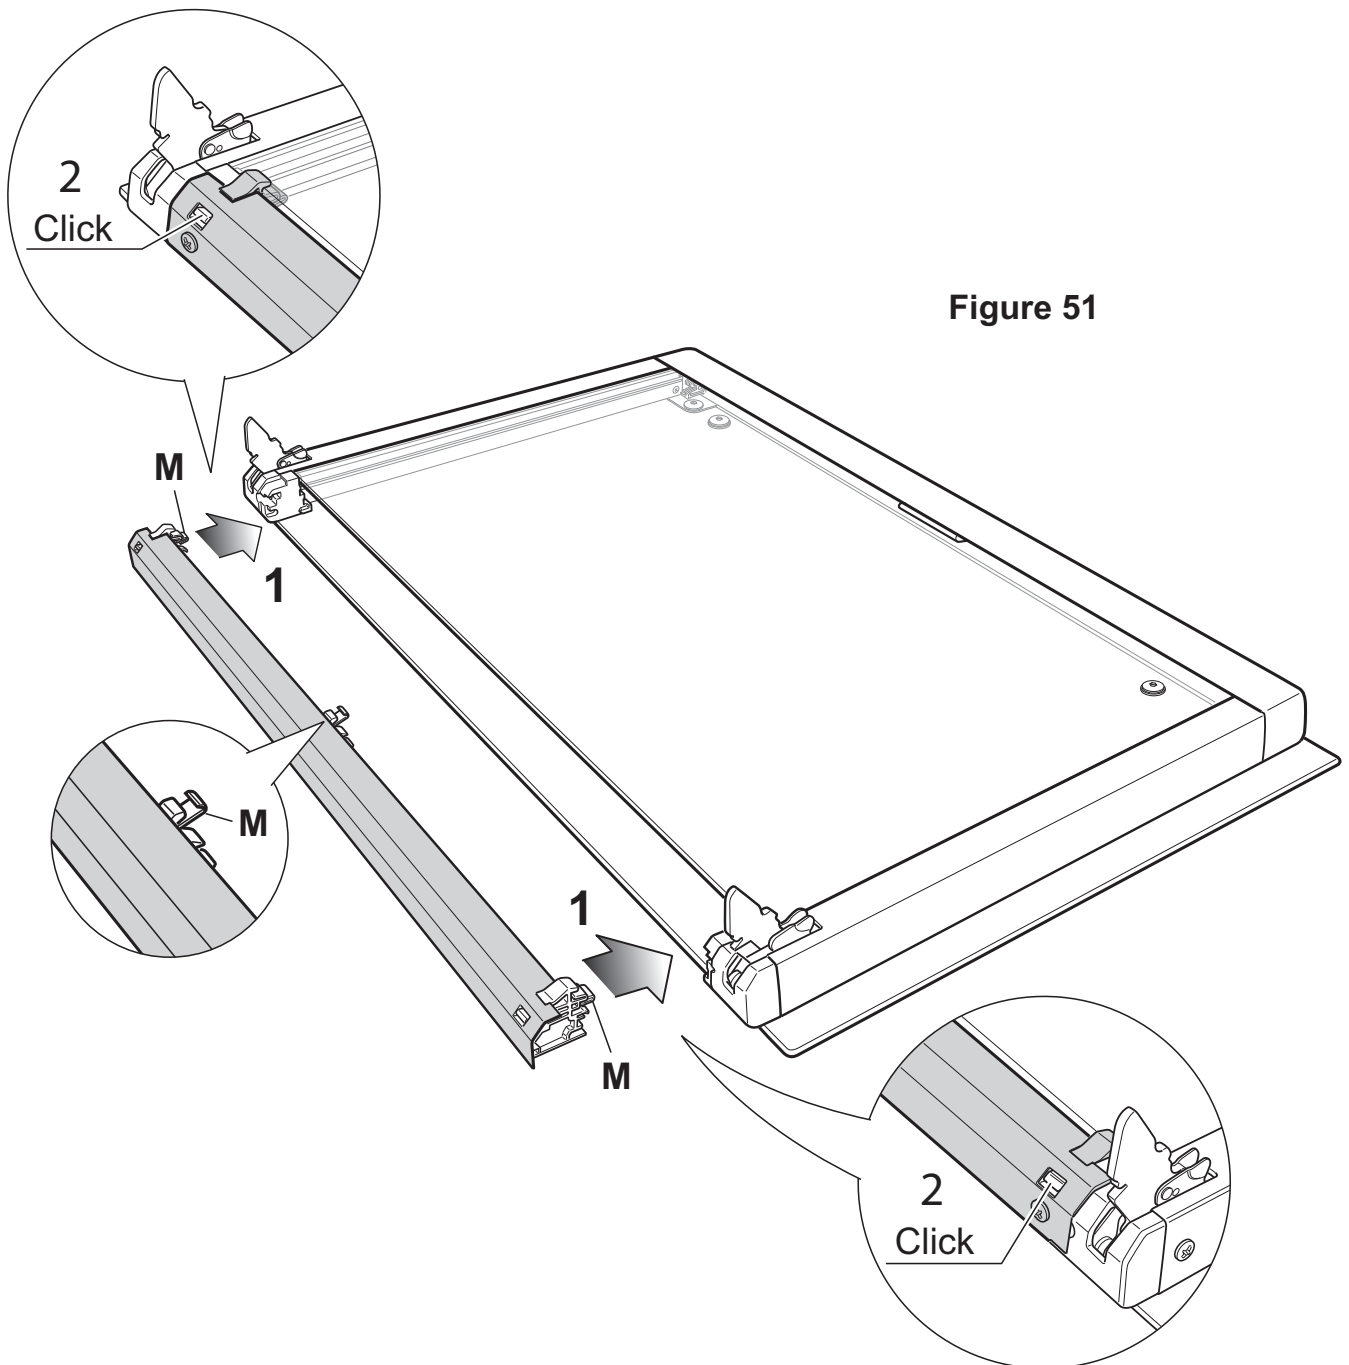

Figure 51
1. Position the glass retainer, as shown in the figure 51. It should sit on the bottom edge of the outer glass. Check that the clamps “M” are not deformed or damaged.